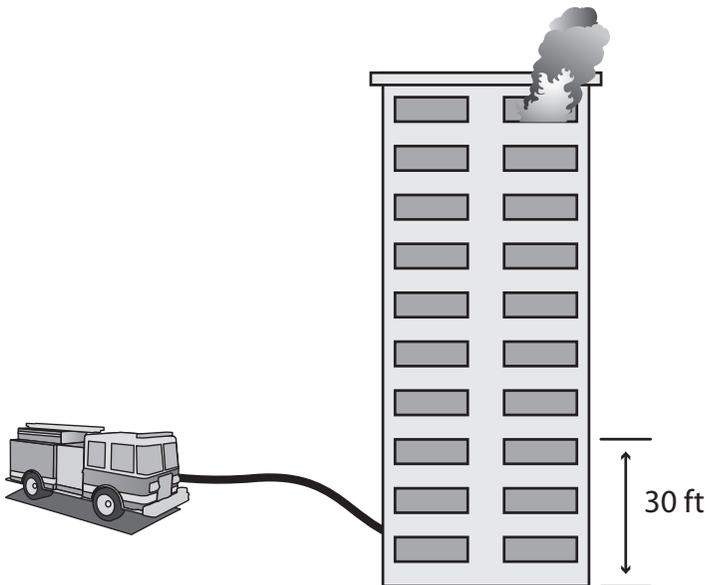

Fig. 2–11. What is the head pressure due to the elevation?
**Question:** A fire is in an office building on the 14th floor. The pumper sits on a hill 30 ft above the fire department connection (fig. 2–11). What is the head, and what is the pressure due to elevation? Should the pressure be added or subtracted from the calculation? Assume 10 ft per floor. (*Hint:* It may help to draw a diagram.)